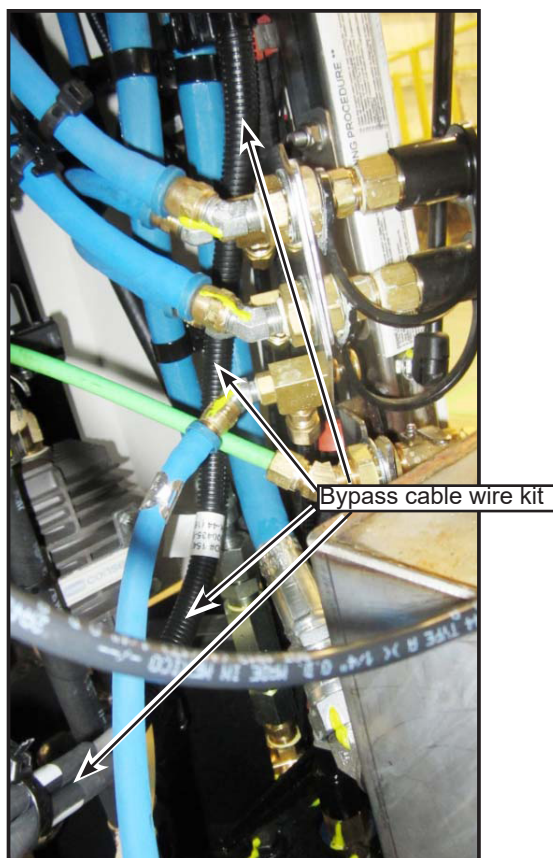

Figure 10 - Route the Bypass Cable Wire Kit Upwards
- 1.10. Route the bypass cable wire kit upwards (see Figure 10).